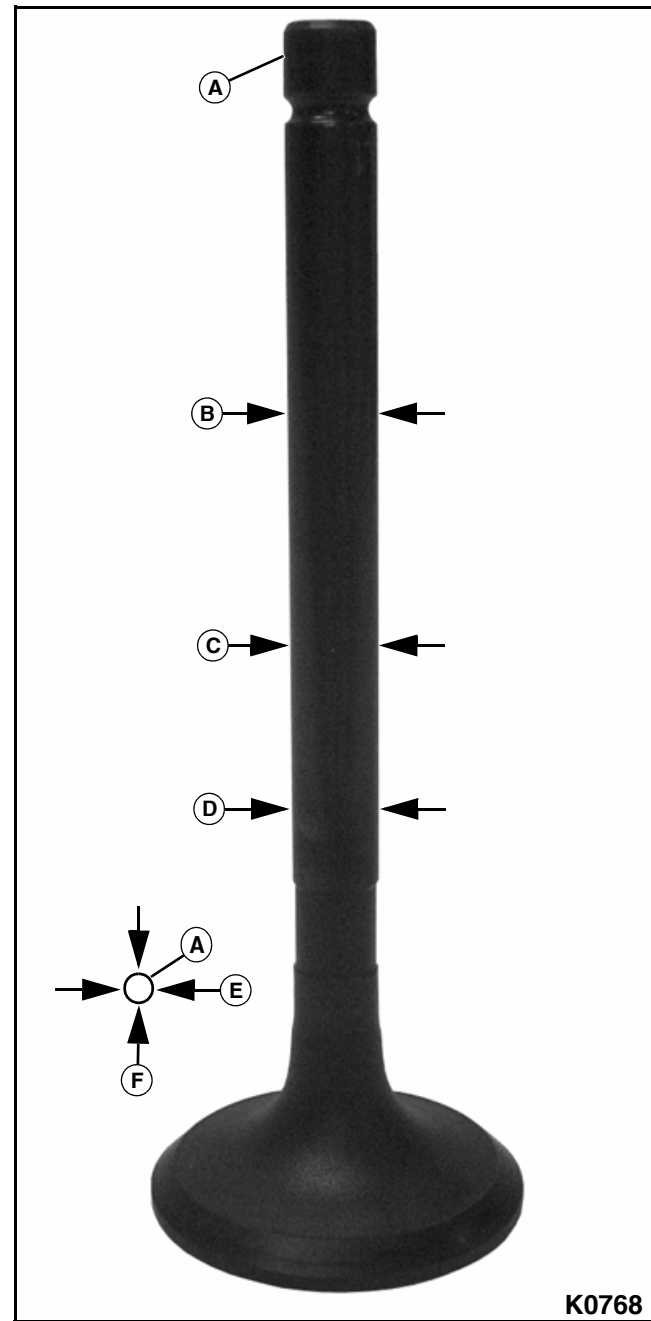

Figure 3-138
1. Measure the valve stem (A) at the top (B), middle (C), and bottom (D) of the valve stem. Record the measurement from the first direction (E). **See Figure 3-138.**
2. Rotate the valve 90° and measure the valve stem a second time, beginning again at the top, then middle, and bottom of the valve stem. Record the measurements from the second direction (F). If the valve stem measurements do not meet specifications, shown on the following page, replace the valve.